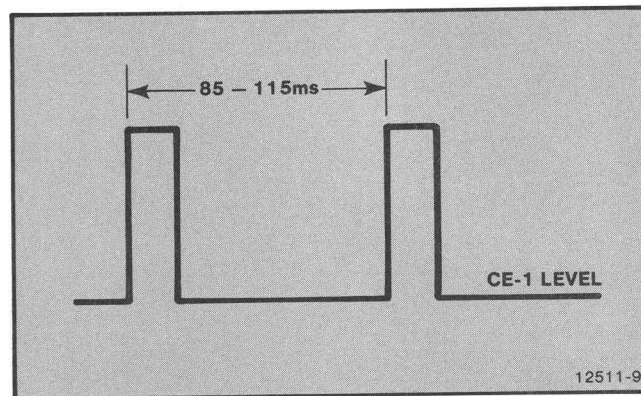

Figure 4-9. CE-1 Waveform.
23. **Observe** the waveform in Figure 4-9 and make sure that the time from the beginning of the first pulse to the beginning of the second pulse is 85 to 115 ms.